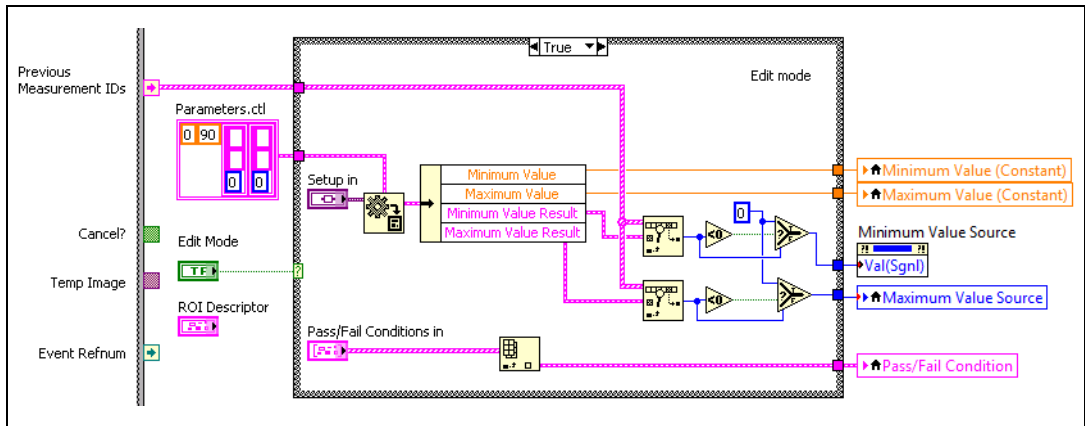

Figure 5-6. Initializing the Previous Measurement Controls with Existing Values
- Complete the following steps to build the block diagram shown in Figure 5-6: